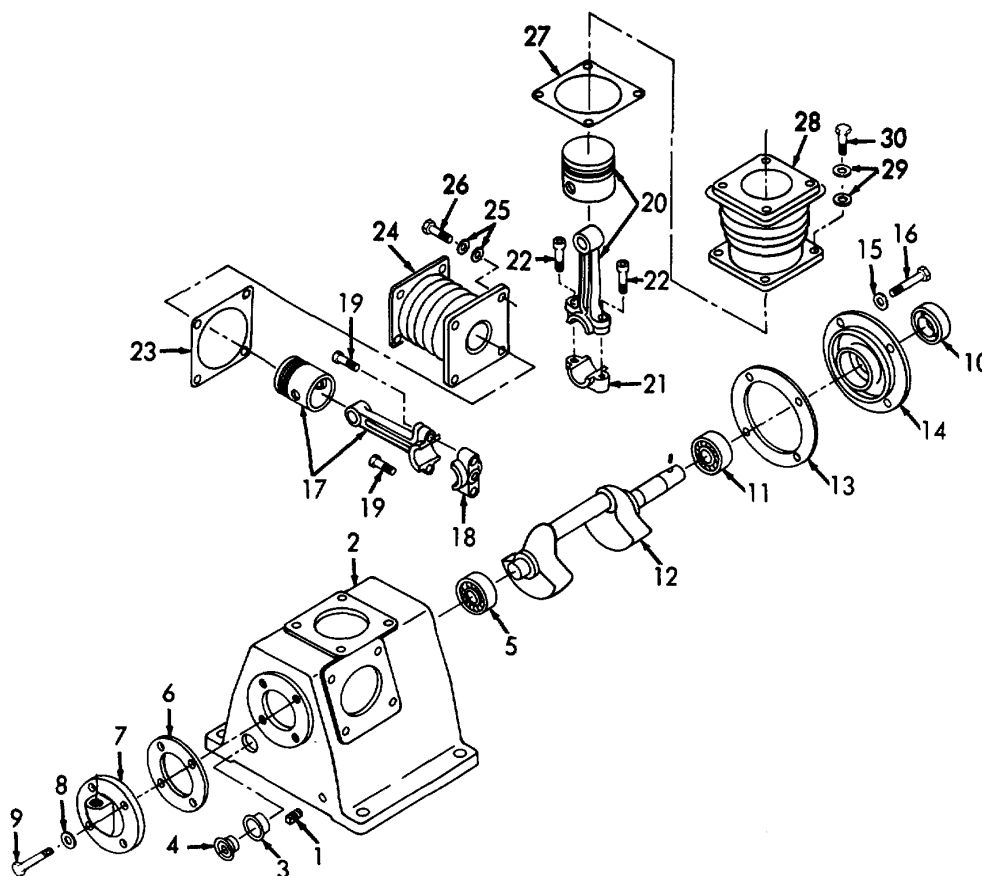

Figure 4-3. Air Compressor, Assembly.
- (e) Place piston (5) into position on connecting rod (6) and install piston pin (4) into position using an arbor press.
- (f) Install two snap rings (3).
- (g) Carefully install a new oil ring (2).
- (h) Carefully install two new compression rings (3).
e. Assembly. (Refer to Figure 4-3).
- (1) Install oil drain plug (1) to crankcase (2).
- (2) Install oil sight gage seal (3) and oil sight gage (4).
- (3) Install bearing (5).
- (4) Install new gasket (6), rear bearing cover (7), eight copper washers (8), and four bolts (9).
- (5) Install new bearing seal (10) and bearing (11).
- (6) Install crankshaft (12).
- (7) Install new gasket (13), front bearing cover (14), four washers (15), and four bolts (16).
- (8) Install second stage connecting rod and piston assembly (17), connecting rod cap (18), and secure with two bolts (19). Be sure that cap is installed in the original position.
- (9) Install first stage connecting rod and piston assembly (20), connecting rod cap (21), and secure with two bolts (22). Be sure that cap is installed in the original position. Repeat for other first stage connecting rod and piston assembly.
- (10) Install new gasket (23) into position.